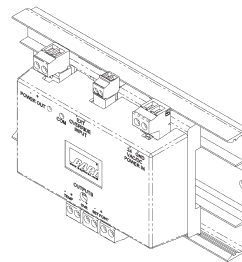

Fig 5. Communication Output Module Snap-Track Mount
Snap Track Mounting: (Figure 5)
- 1 Push the blue mounting tabs in as shown in Figure 5.